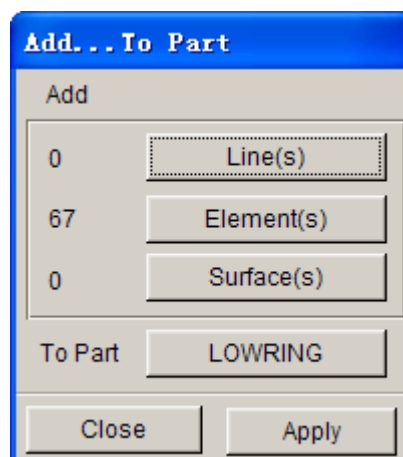

Figure 46: Add...To Part dialog box
13. The **Apply** button is enabled, as shown in Figure 46. Click **Apply** button to move all selected elements into **LOWRING**.